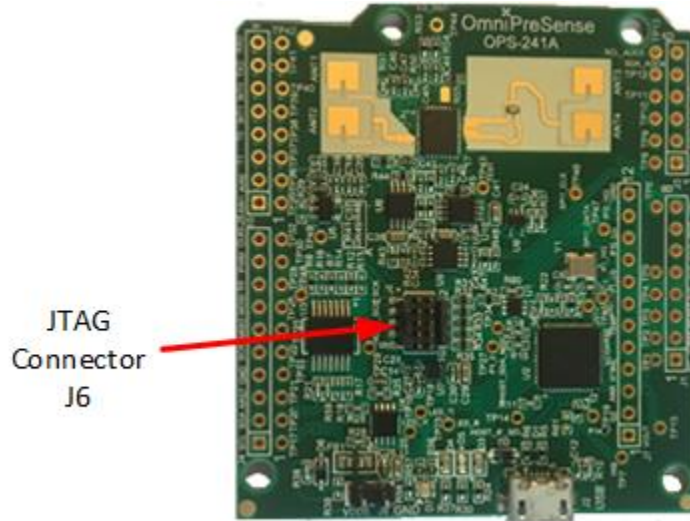

Figure 4. JTAG Connector J6
Step 2. Connect the JTAG programmer's connector to the JTAG connector on the OPS241/OPS242 (J6) located near the middle of the board (Figure 4). On the OPS243 the JTAG connector is J2 and located to the right side of the board with the antennas positioned at the top. The connector is keyed, so it can only connect in one direction.